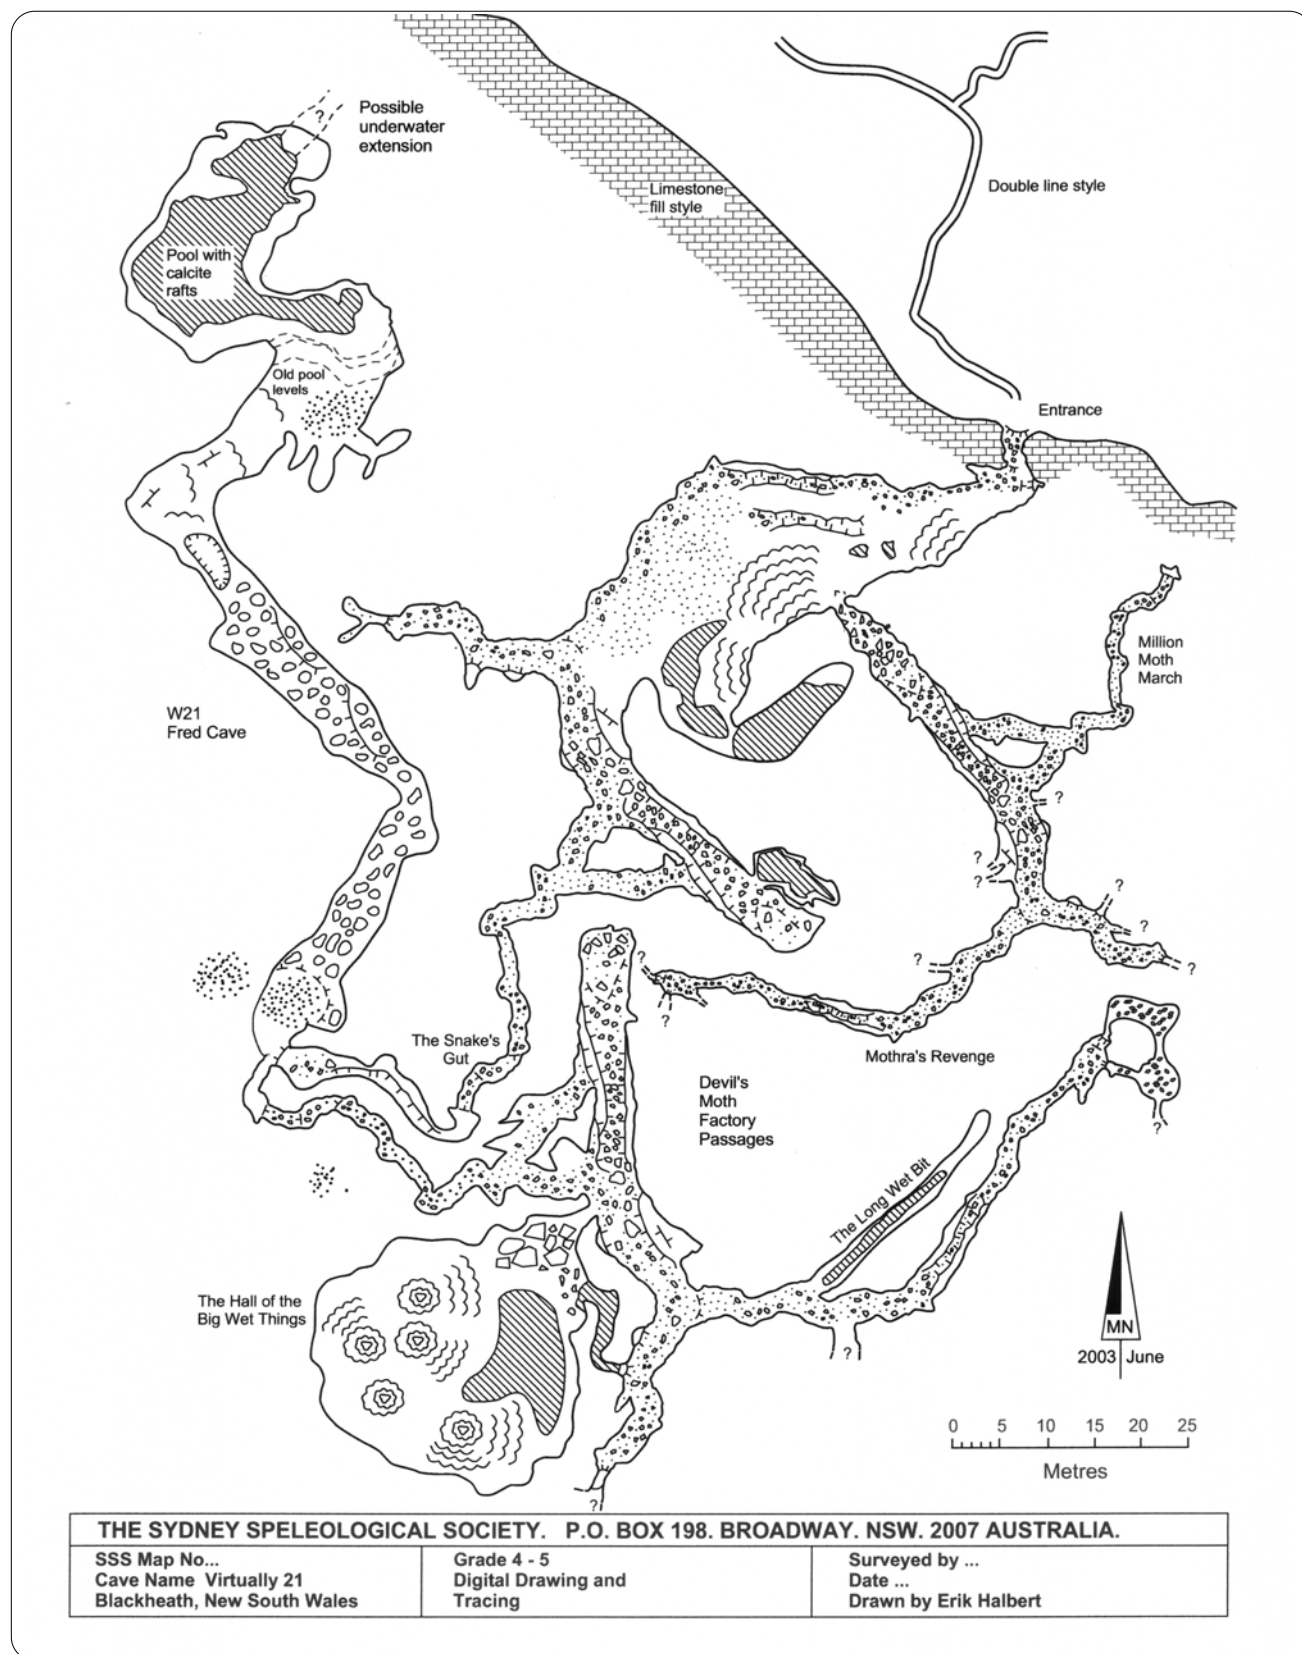

Figure 2
Mayura easily produces cave or area maps for publication. For simple caves such as Headbanger Cave (Figure 1) the drawing can be done without data input. For more complex cases the initial input to Mayura can be a line plot in vector format from a cave survey program such as *Compass* or *Walls*, and/or a raster scan (Figures 2 & 3) from a scanning device. Multiple scans can be inserted so that composite maps can be produced. Compass outputs a line plot in WMF form that Mayura can use.
Double line styles are useful for drawing roads and tracks but Mayura does not have this style. A workaround is as follows: Draw the track in black with an appropriate line width of say five points. Go into preview/outline mode. Duplicate the track. Make the duplicate line width two points and white. Superimpose the two tracks. Go out of preview/outline mode and you should have a double track. Group the two tracks. It is easier to do than to describe. :-) An example is shown in Figure 2. Complex tracks can be made in the same way after using the group command, before going into preview/outline mode. You can draw wide paths using wider non-standard line widths.
Figure 2 shows a composite cave map of Virtually 21 Cave. This is a virtual cave used as a test bed for Mayura. It contains a double track line style, several line breaks with question marks in them, and a limestone fill style. The MD file is 658 KB and the PDF is 281 KB. The composite map uses the W21 Cave at Wombeyan, NSW, which I originally mapped in 1968 as well as parts of The Devil's Moth Factory map of Peter Sprouse on the PEP site. I inserted the Devils Moth Factory map into Mayura as an AI file before disassembling (object ungrouping) it and joining pieces to the 21 Cave map. The current format is A4.
2. Use a small flashlight as a target for sighting. I have mounted mine on a second tripod, held in place with a swivelling head (Figure 2). This sounds like a lot of gear to carry into the cave, but the ease and precision of the resulting compass readings is well worth it. An additional benefit is that the person at the end of the tape is free to walk around and make measurements, rather than staying rooted to one spot while holding the light. Because all stations are “floating” above the floor, it is necessary to set permanent stations beneath the tripods by measuring downward with the tape. The permanent station on the floor needs a different name from the station at the tripod head.